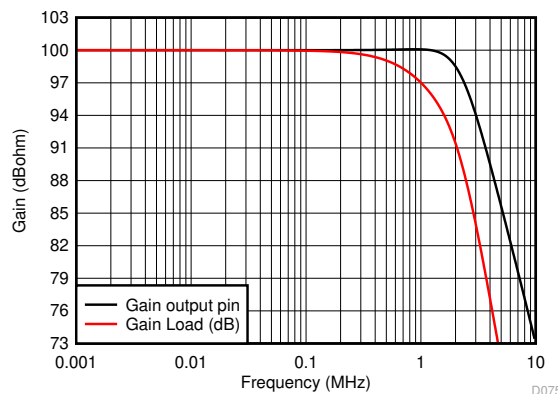

図 8-8. Small-Signal Response for 100-k Ω Transimpedance Gain
- Assume a nominal source capacitance value of 100 pF. This normally comes from the capacitance versus reverse bias plot for the photodiode. No reverse bias is illustrated in Figure 8-8, but the current source is typically a back biased diode with a negative supply on the anode and the cathode connected to the op amp inverting input. In this polarity, the signal current sinks into the diode and raises the op amp output voltage above ground.
Implementing this design and simulating the performance using the TINA model for the response to the output pin and to the final capacitive load shows the expected results of 図 8-8. Here, the exact 2.2-MHz flat Butterworth response to the output pin is shown with the final single pole rolloff at 1 MHz at the final 2.2-nF capacitor.